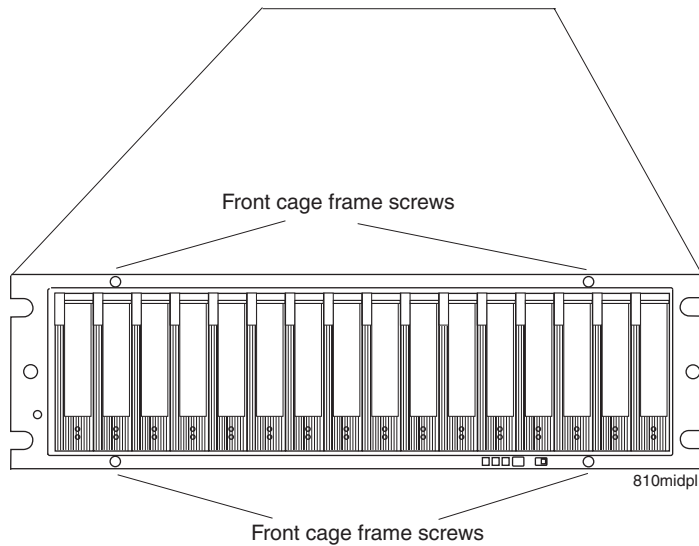

Figure 51. Replacing a midplane
10. Use a #1 Phillips screwdriver to loosen the four front cage frame screws on the midplane, as shown in Figure 51.